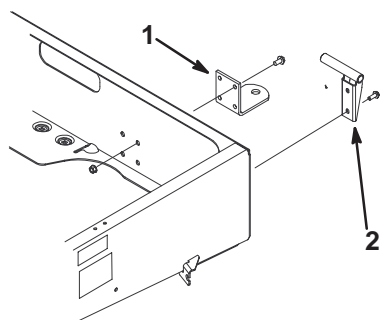

Figure 7
- Align the hitch with the mounting holes on the frame. Secure the hitch with the screws and nuts (Fig. 7).
- Mount the left hand pivot bracket to the left rear corner of the frame with 2 flange head screws (3/8 x 1 inch). Position the bracket as shown in Figure 7.